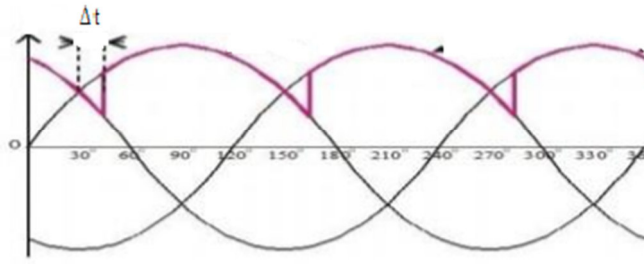

Figure 8.7: Measuring Δt for Half Controlled Bridge Rectifier
- Measure the value of Δt using cursor option in the oscilloscope as shown in the Figure 8.7.